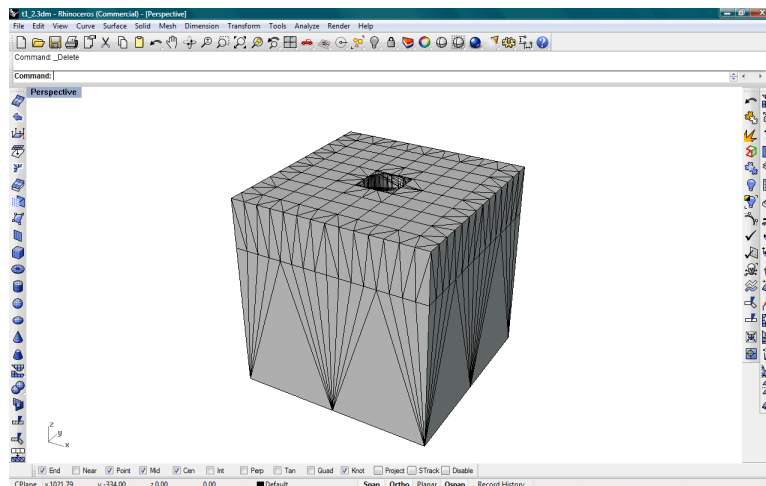

Figure 51: Surface mesh of capped shaft in stratified soil
35. Move the slider to the **middle of the scale** and click **OK** to create the surface mesh. Delete the solid model which has remained highlighted (Figure 51).